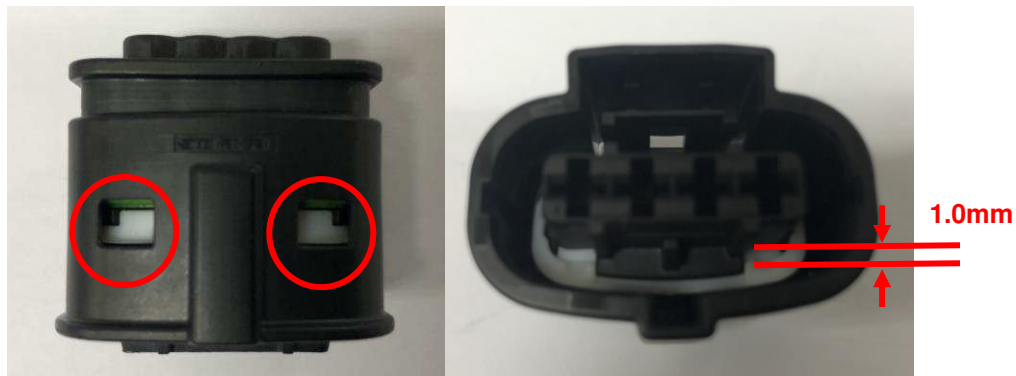

Fig. 7
- (1) Check TPA is in pre-lock condition as shown in Fig.7. The contact cannot be inserted in case of the final lock condition so do it again after rework.
TPA must be Pre-Lock status before Female TML extraction (See Fig.7)